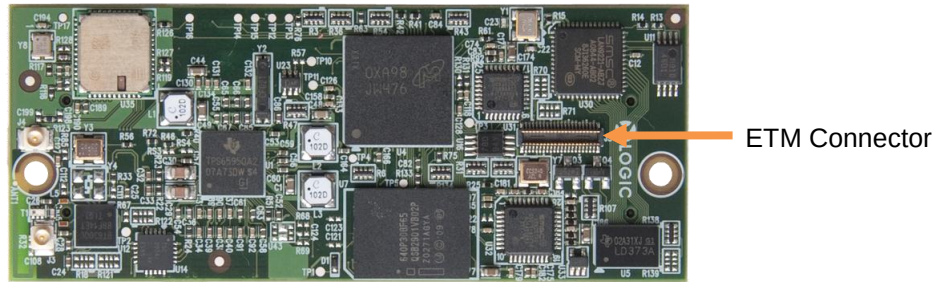

Figure 7.3: ETM Connector on SOM-LV
1. Locate the ETM connector on the SOM-LV. See Figure 7.3.